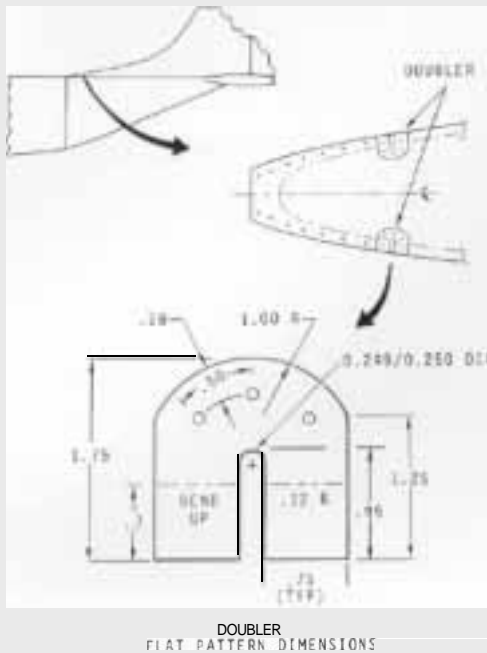

Figure 1. Dorsal Fin Drain Provision: Procedure 1
in Figure 1. Since the installed drainage points are close to the forward end of the dorsal, and the drain slot extends to the fuselage pressure skin, the following installation provides nearly complete drainage:
4. Fabricate two doublers as shown in Figure 1 from 0.040-inch 2024-T3 clad aluminum alloy sheet.